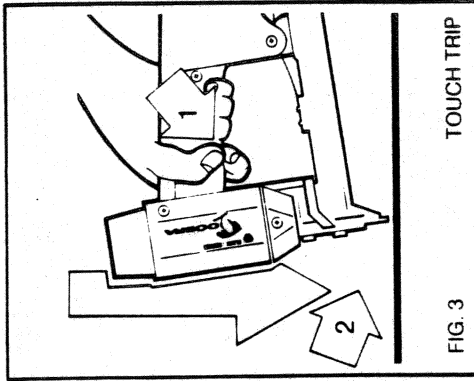

FIG. 3 TOUCH TRIP
2. **YOKE OPERATION (TOUCH TRIP)** (See Fig. 3) The Touch Trip method can be used when more speed and less accuracy and drive power are required.